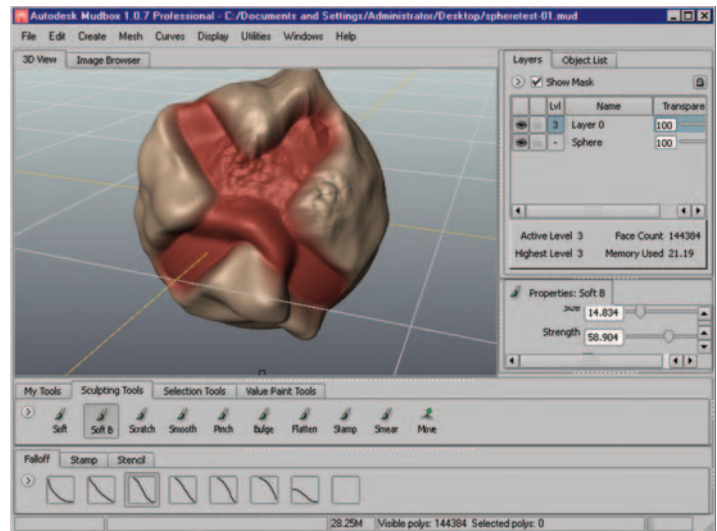

Figure 11.35 Mesh with Mask active and additional sculpting.
11. In the My Tools menu, select the Soft brush again. Sculpt on the mesh to see the effects of using a mask. Figure 11.35 shows the resulting mesh after sculpting with the mask in place.